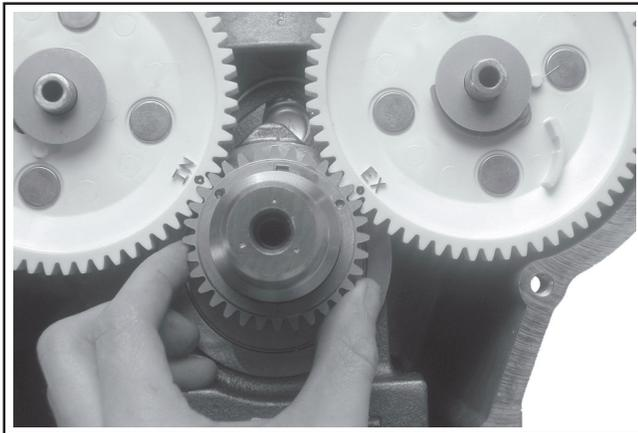

Figure 10-27. Installing Crank Gear.
1. Orient the crankshaft so the key is in the 12 o'clock position. Hold the crank gear with the timing marks visible and slide it onto the crankshaft and key, so the timing marks on the crank gear align with the timing marks on the cam gears. See Figure 10-27.